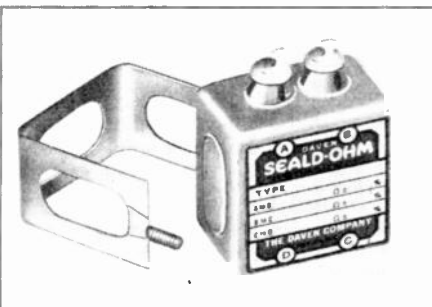

FIG. 2. HERMETICALLY SEALED RESISTOR
**Precision Resistors:** The hermetically sealed resistor shown in Fig. 2 of a new design introduced by Daven Company, 191 Central Avenue, Newark 4, N. J. The non-inductive resistor element, wire-wound to any value up to 1.6 megohm, is sealed in a drawn brass case, with leads brought out through glass seals. Size is 1 9/16 by 7/8